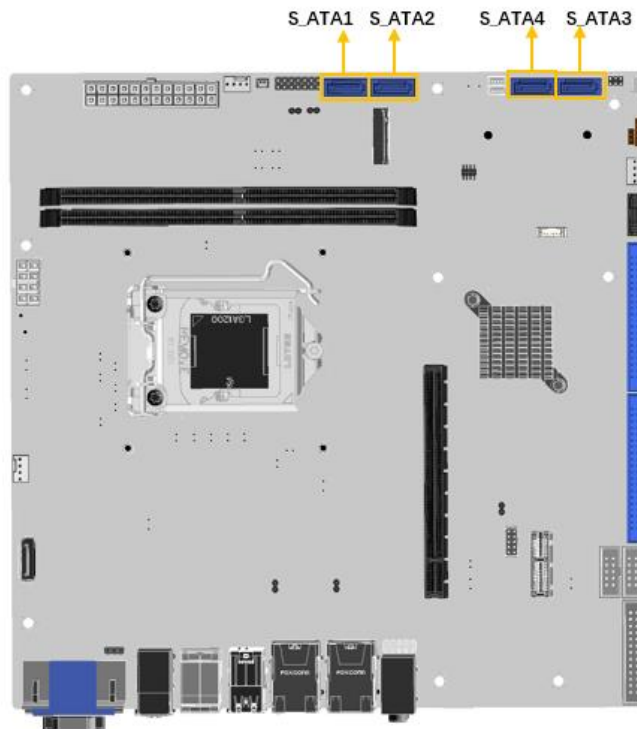

Figure 3-20: SATA 6Gb/s Connectors Location
- CN Location:** See Figure 3-20